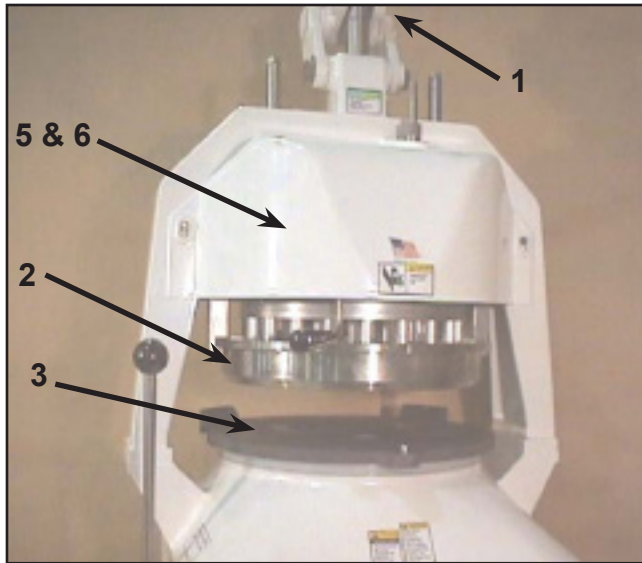

Figure 7
1. Remove front and rear canopies (Fig. 7, No. 5 & No. 6) by lifting up, and out.
2. Pull handle (Fig. 7, No. 1), down until ring (No. 2) is resting on pallet (No. 3).